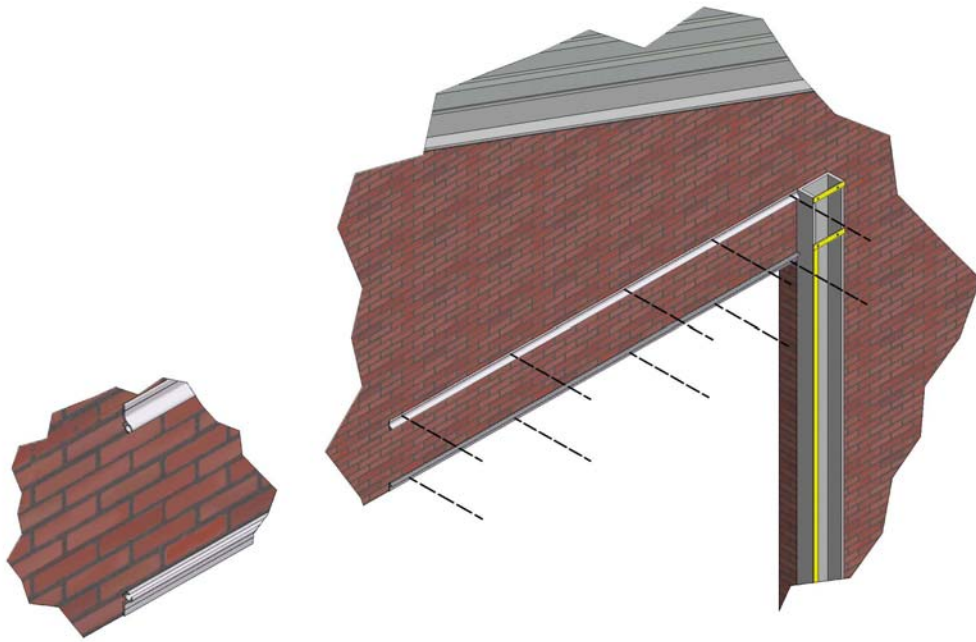

Figure 22
8.1 Overview: With the flutes facing each other fix Aluminium Profile (PB1) to building with M5.5 x 50 Screws (PE1) at 1m centres. Align the upper section with the top of the Tracking and the lower section to the top of the door opening (Figure 22). To allow the Panel (PA1) to be fed into the Profile do not secure the last 2m.